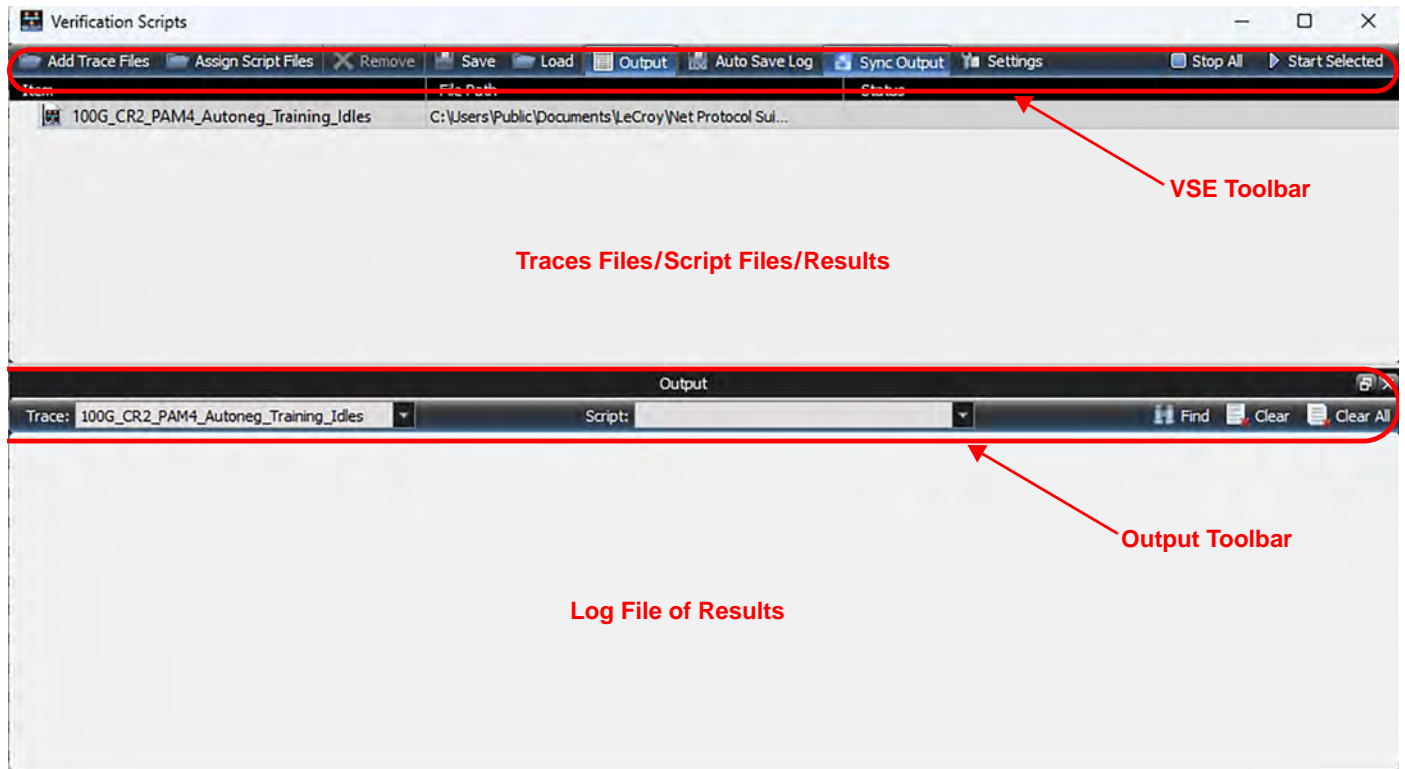

Figure 5.114: Verification Script Engine – Main Menu
2. Select **Verification Script**. The Verification Scripts main window displays (Figure 5.114).